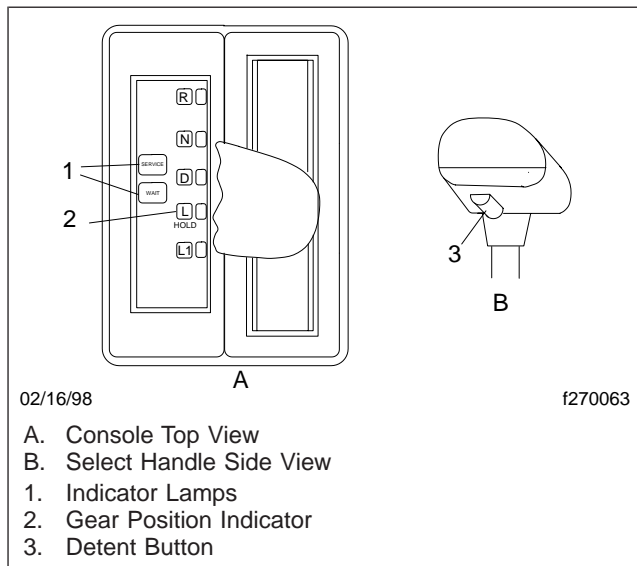

Fig. 8.13, Standard Driver Command Console (DCC)
- The Standard DCC (**Fig. 8.13**) has indicators for the three forward positions: Drive, Low (2nd gear), and Low1 (1st gear), plus Reverse and Neutral positions. Service and wait lamps are also located on the console. The gear select handle contains only a gear select lever detent button.